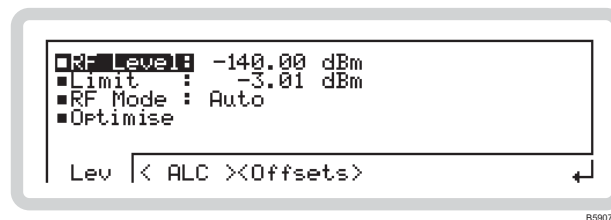

Fig. 3-21 RF level
- 2 Press to view the sub-menus. *RF Level* is highlighted (Fig. 3-21).
From the RF level menu of Fig. 3-21, touch <ALC> or press <TAB> to display the ALC screen (Fig. 3-22).
- 1 From the RF level menu of Fig. 3-21, touch <Offsets> or press **<TAB>** to display the RF offset screen (Fig. 3-24).